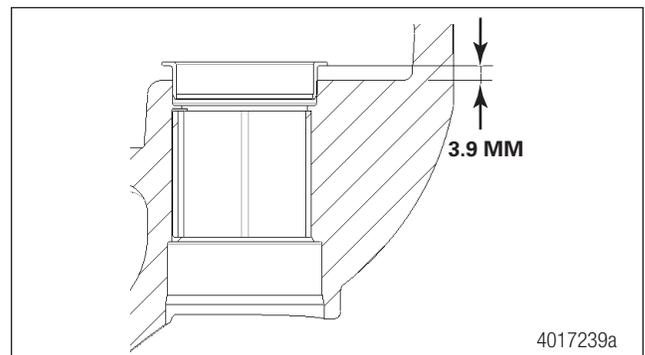

Fig. 8.15 Slide Pin Bushing Depth Measurement
STEP 3 - Use the applicable parts of Meritor tool MST 1000 to draw the retainer into the slide pin bore until the flat face of the retainer is 0.15-inch (3.9 mm) from the end of the slide pin bore. Figure 8.15.